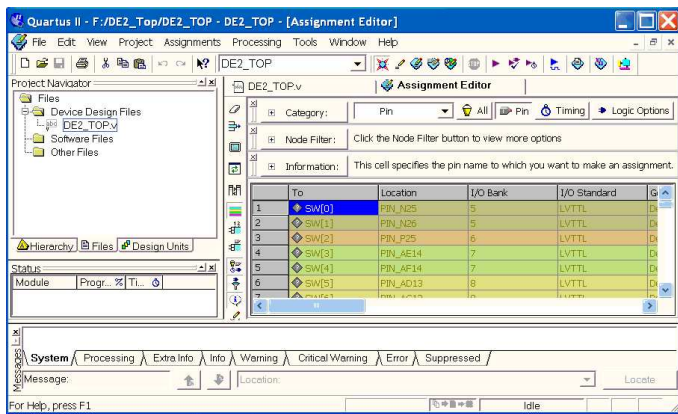

Figure 2: Assigning Pins Textually
*DE2\_TOP.qpf* is the top Quartus project file. To open the project file, use File→Open Project and select *DE2\_TOP*. Once the project is opened, you can see and change I/O pin assignments with Assignment→Pins. Figure 2 shows this dialog.